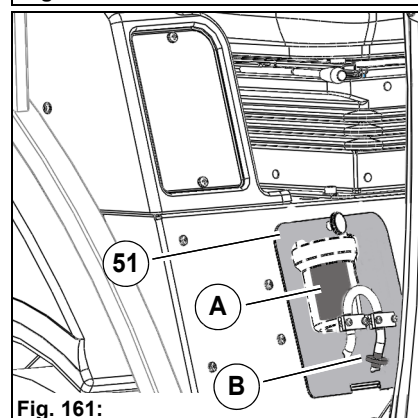

Fig. 161:
In the driver's cab under the driver's seat behind the cover plate **Fig. 161-51** are located the sieve filter **Fig. 161-A** and the reducing piece **Fig. 161-B** of the water pump. Unscrew the filter housing, check the sieve filter and the reducing piece for openness and clean if necessary.
3. Also empty the sieve filter, **Fig. 161-A**.